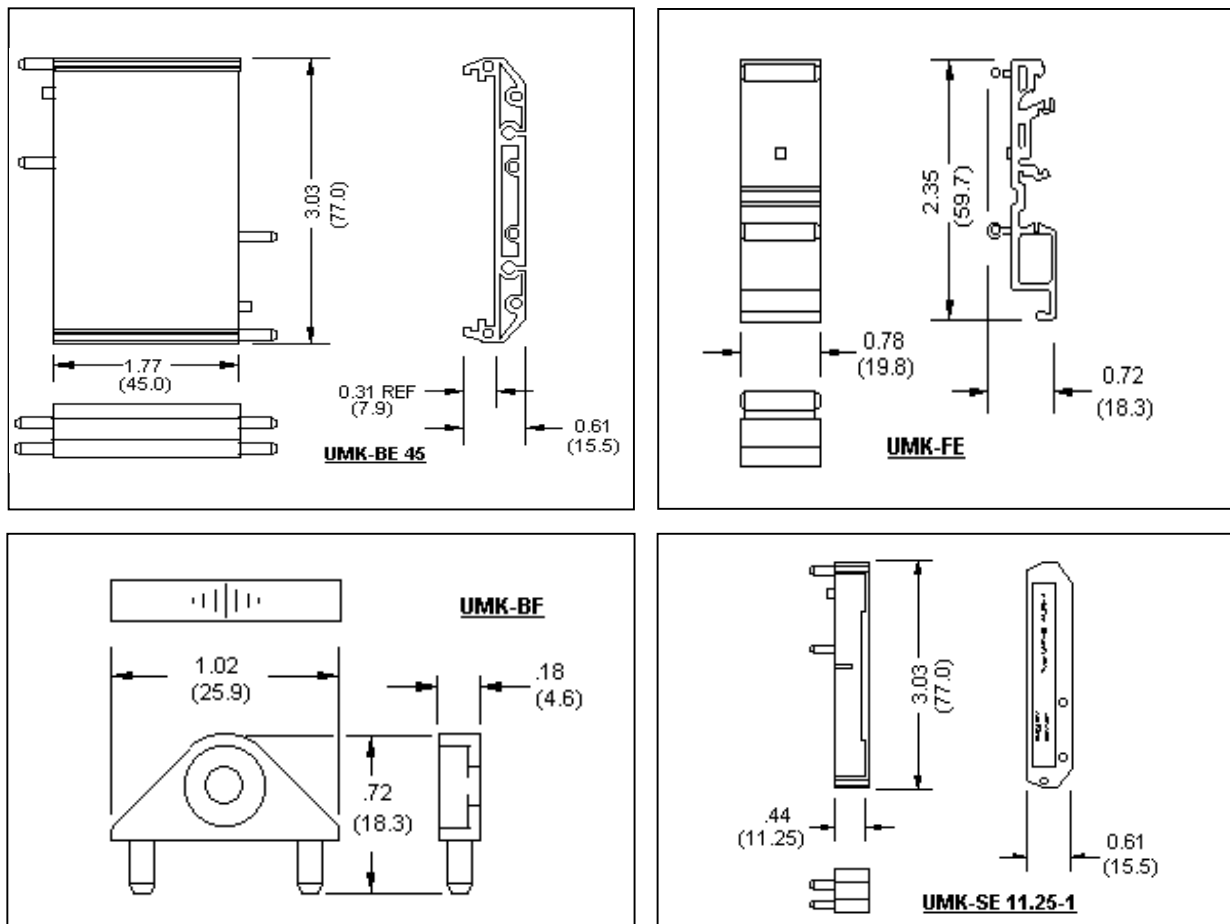
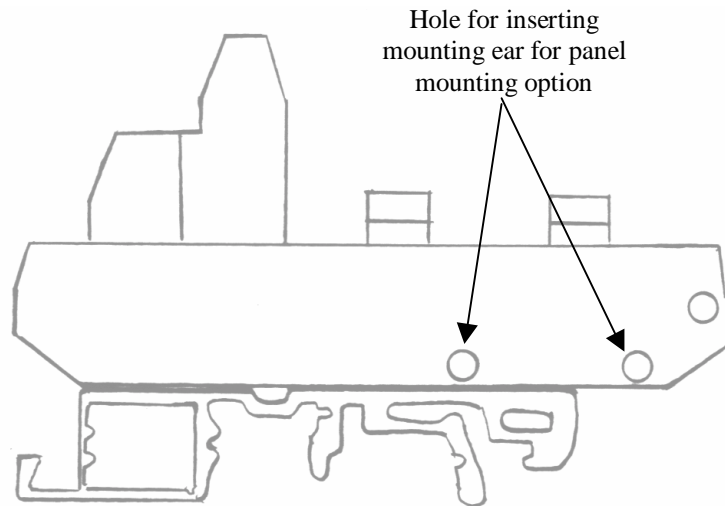

Figure A-13. Terminal Board Mounting Base Assembly Drawings
Figure A-14. Terminal Board Assembly Side View (DIN-rail mounting foot installed)
4. Insert one UMK-BF mounting ear into the appropriate two holes in the side element as shown in Figure A-14. Note in Figure A-13 that the mounting ear has a recessed hole for inserting a (user-supplied) screw for mounting the terminal board. The recessed hole should face upwards to accommodate the head of the mounting screw.